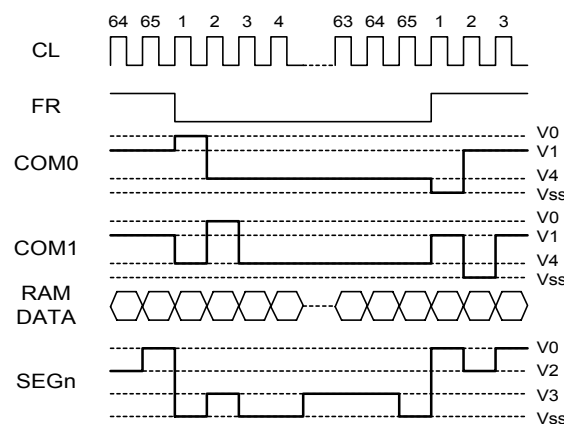

Fig. 6
Moreover, the display timing generator circuit generates the common timing and the liquid crystal alternating current signal (FR) from the display clock. It generates a drive wave from using a two-frames alternating current drive method, as is shown in Figure 6, for the liquid crystal drive circuit.